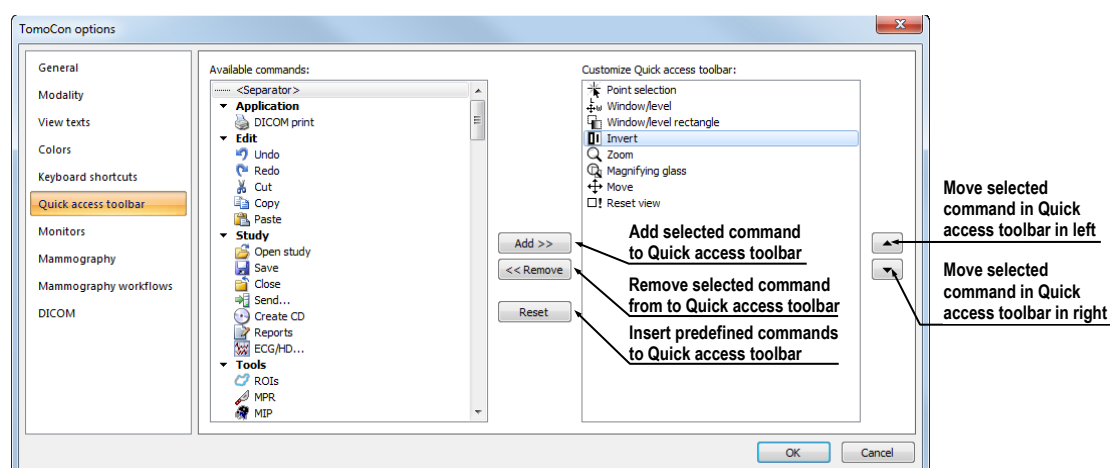

Figure 68 – Configuring the Quick access toolbar
3. Push the **Add >>** button (see Figure 68).